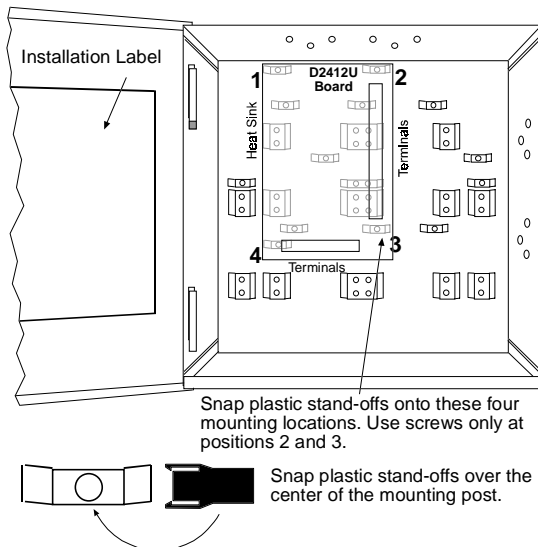

Figure 1: D2203 Enclosure
Mount the panel to the enclosure as shown in Figure 1. Mount so the heat sink is at the left and the terminals are at the right and bottom. Be sure to use the four plastic stand-offs between the enclosure and the board (then secure with the two screws provided - at the right top and right bottom).
**Caution!** Do not connect wiring for external relays directly to Ext 1 or Ext 2. Install D133 (or D134) modules connected to Ext 1 and Ext 2 in the enclosure with the panel as shown in Figure 1.